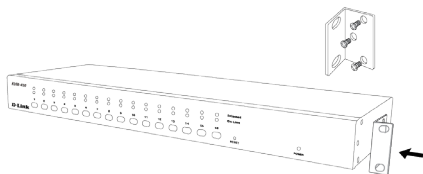

Figure 9. KVM-440 Front Panel
1. Attach the mounting brackets onto the sides of the KVM Switch unit using screws. (See Figure 9)